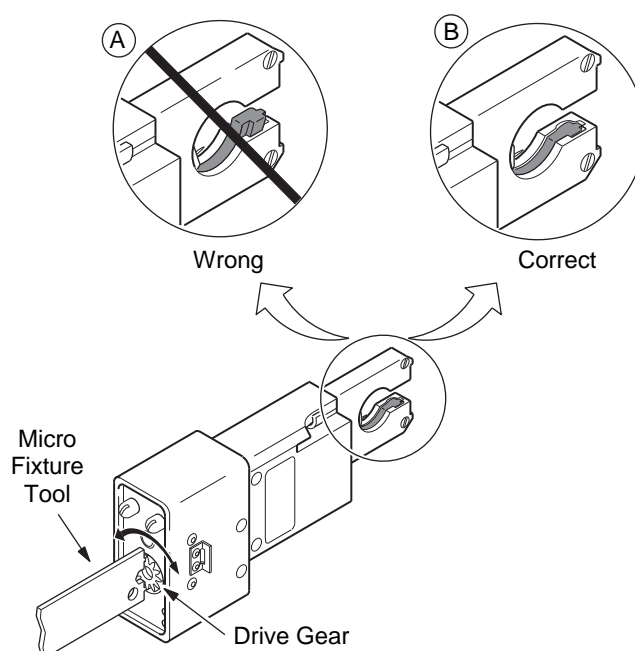

Figure 4 Rotor Manual Adjustment
1. Using the micro fixture tool, turn the weld head drive gear on the base of the micro weld head to align the rotor opening to the weld head housing opening. See Figure 4(A) and Figure 4(B), showing views of the rotor misaligned and in proper alignment.
3. Manually turn the rotor drive gear, shown in Figure 4, until the electrode clamping screw is exposed. See Figure 8.